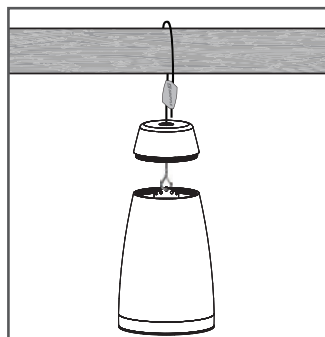

FIGURE 7: MAIN SUPPORT
4. With speaker supported, snap main support hook hanger onto the center hole in the top bracket of the speaker. Adjust to proper height by pulling cable through either end of Gripple. (See figure 7).